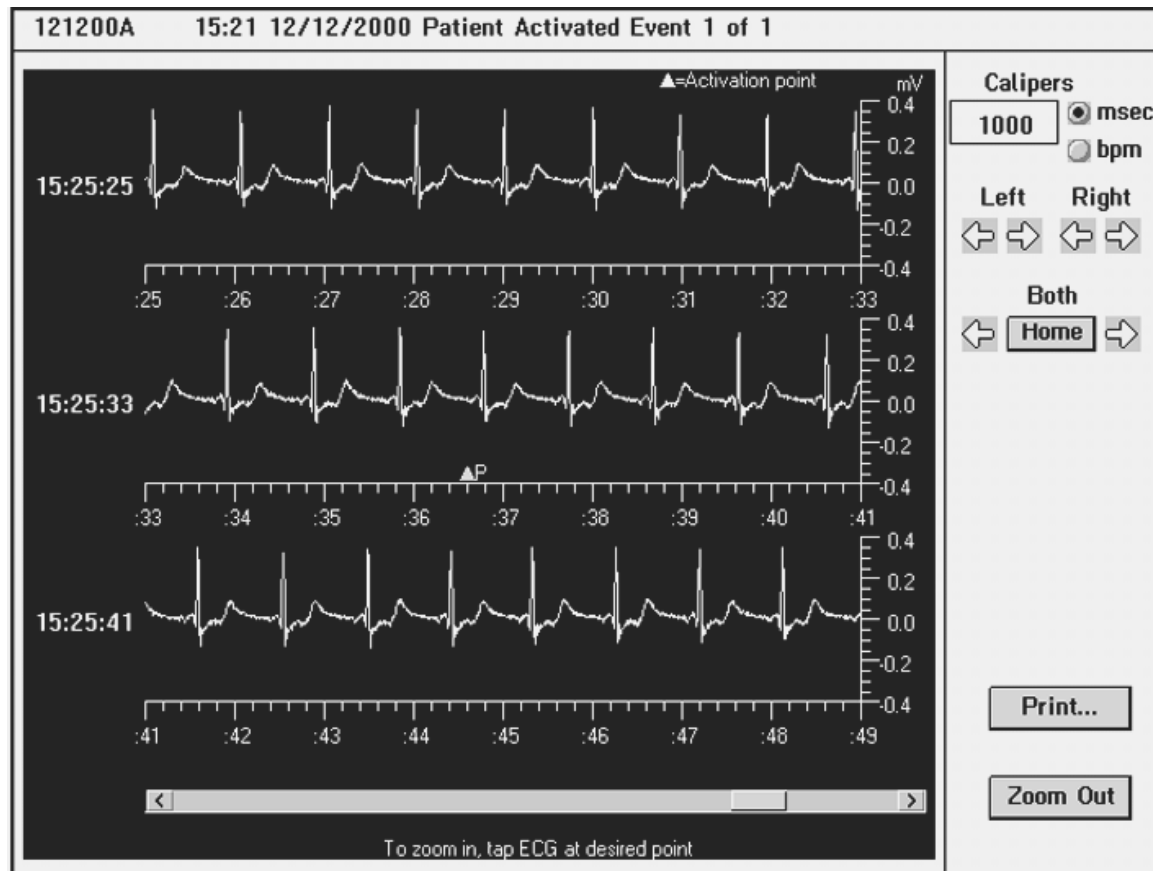
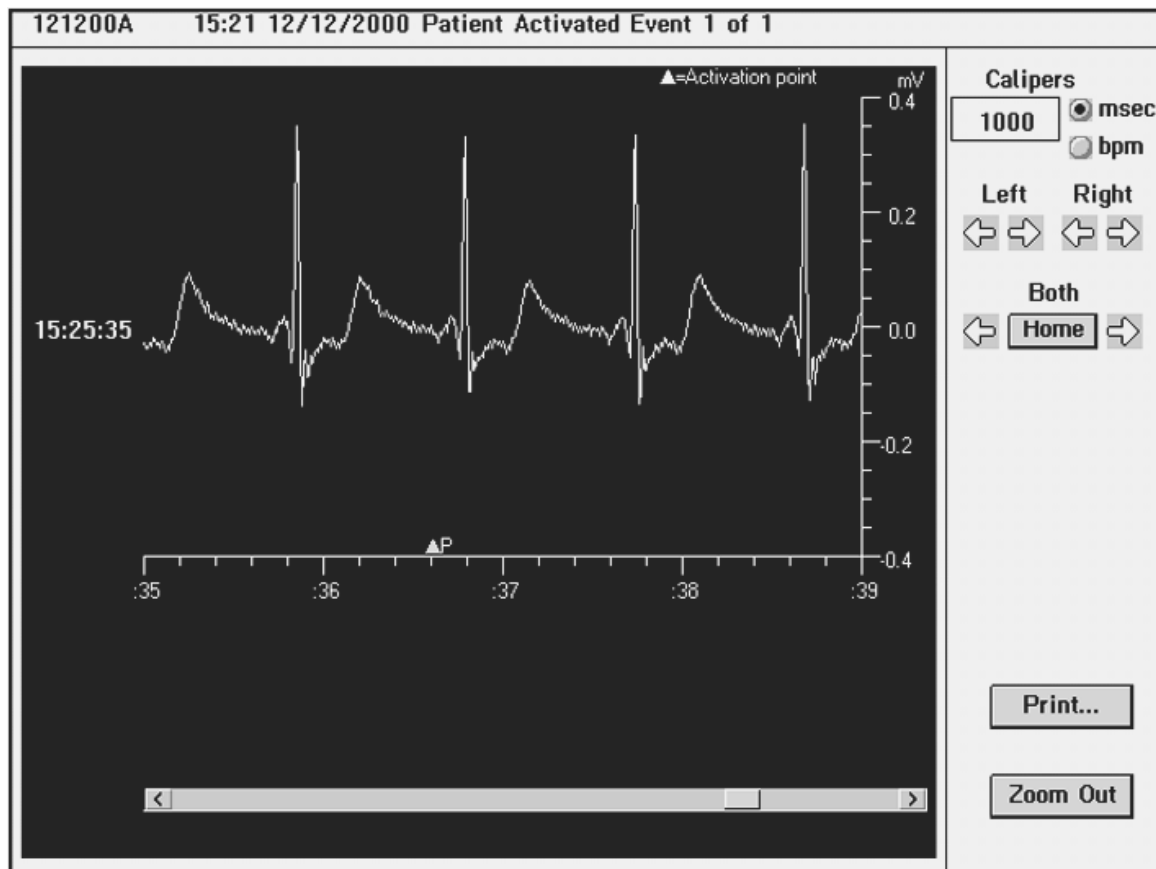

Figure 23. *Second Zoom Level*
Figure 24. *Third Zoom Level*
- Use the scroll bar at the bottom of the screen to move through the stored event (see “How to Use the Scroll Bar” on page 39). To view the event in greater detail, tap the screen over the ECG of interest. This takes you to the second zoom level and centers the area of the event you tapped (see Figure 23). Tap the screen again over the ECG of interest to move to the third zoom level (see Figure 24).